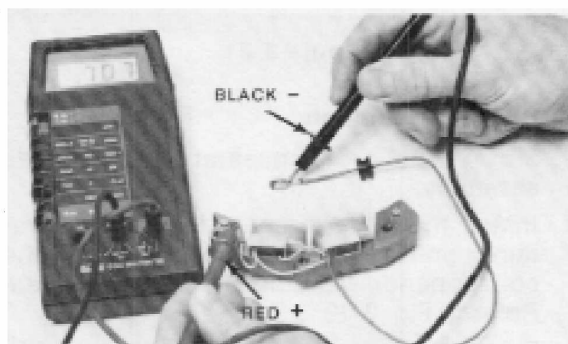

Figure 3-26
7. Reverse the leads and complete the test. The measurement is 707 ohms. The meter was on the 2000 ohm scale and the reading is .707 or 707 ohms. See Fig. 3-26.